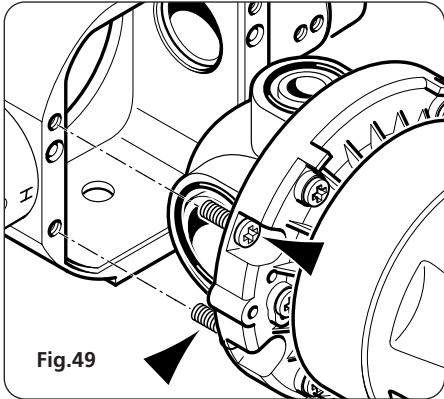

Fig.49
- 4 Remove the four screws (fig.49) holding the valve cartridge, and carefully remove the cartridge assembly from housing.